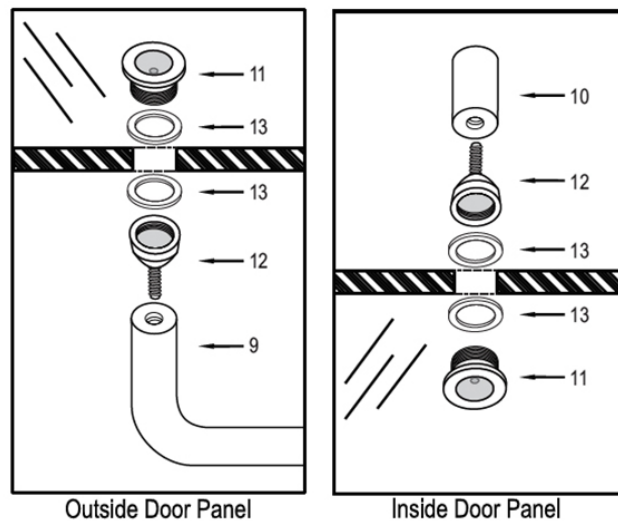

FIGURE 3
8. To install towel bar (9), first attach bases of recessed finger pulls (12) to the towel bar (9). Next, hold the towel bar (9) against the hole in the glass with the recessed finger pull washer (13) on the recessed finger pull (11) and secure towel bar (9) in place at both ends. Install the pull (10) the same way the towel bar was installed. Use hole in recessed finger pull to tighten. (See Figure 3)